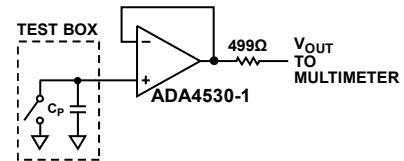

Figure 8. Simplified Schematic of the Capacitive Integration Method
Figure 8 shows a simplified schematic of the capacitive integration method.
See Figure 8 for the simplified schematic of this capacitive integration method.
5. Connect the input triax connector (J1) to the test box (see Figure 8). Use a triax cable that can withstand up to 125°C. Many triax cables are only functional up to 85°C. A 125°C triax cable can be built using the Harbour Industries M17/131-RG403 TRX cable and the Model 5218 triax connector from Pomona Electronics.